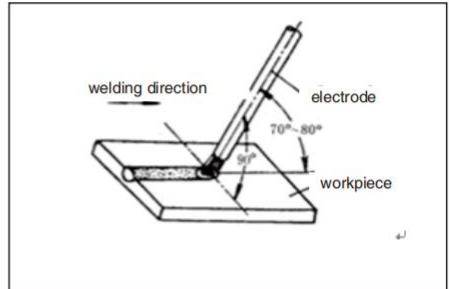

Fig 17 Angles of electrode in flat welding
(1) **Welding angle:** the electrode should be inclined $70^{\circ} \sim 80^{\circ}$ forwards. (See Fig 17)